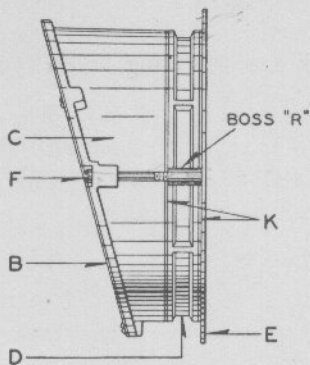
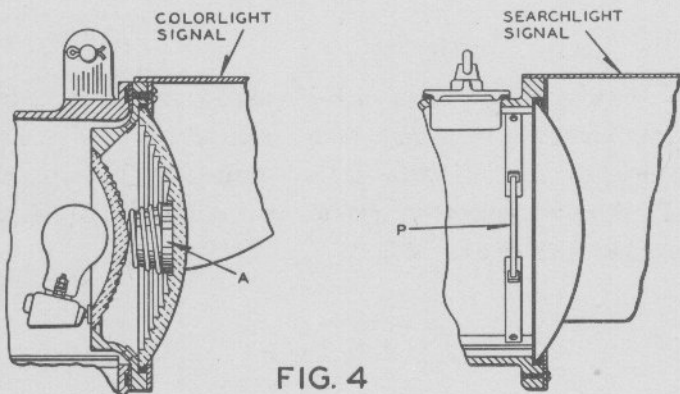

FIG. 1
FIG. 4
Inclined cover glasses with Phankill units are shipped out as shown in Figure 1, and consist of cover glass "B" mounted in inclined ring "C", ring "D" containing the Phankill screen and close-up indication prism, and ring "E" all clamped together with screws "F".
(2) Install in its place ring "E", Fig. 1, with the two bosses "R" on the horizontal center line of signal.
(3) Referring to Fig. 1, after ring "E" is in place, install the Phankill unit, inclined cover glass and holder on the signal, and fasten with the two long No. 14-24 fillister head screws "F" furnished with the assembly. These screws fit into
the two tapped holes in bosses "R" on ring "E". Make sure that the two cork gaskets "K", Fig. 1, cemented to the Phankill unit rim are properly seated against the lens ring "E" in back, and inclined cover glass holder "C" in front.
Assemblies of cover glass and Phankill unit will be furnished per Fig. 1 for all dwarf signals that are now in service. For application observe the following:
(1) Remove and discard close-up prism "P" Fig. 4 and the entire assembly of cover glass with its cast iron ring holder and ring "J" and apply lens ring "E" Fig. 1. This will apply in cases of either convex or flat inclined cover glasses.
(2) Apply the remainder of the assembly per A-3 using in all cases a 10° deflecting cover glass with painted risers on the steps, assembled to deflect light upward and with the prism steps on the outside, away from the lens.
(1) The close-up prisms which must be removed from the signals, are located just behind the front lens in the H-2 and H-5 as indicated by "P", in Fig. 4, held by spring clips, and can be removed through the hand hole.
In other color light signals and marker lights it is located between the front and back lens and held in place by a spring holder, as indicated by "A" in Fig. 4. Remove the back lens and detach the close-up prism and holder. In replacing the back lens, make sure that the yellow line on the lens coincides with yellow line on the housing. In case these lines have been obliterated, mark the lens and housing before removing it so that it can be replaced in its original position.
(2) To adjust the close-up prism in the Phankill, loosen, but do not remove, the two screws "F" which fasten the cover glass holder in place. Rotate the entire Phankill unit and its metal shell "D", Fig. 1, until the close-up indication is observed at the desired point. There is an arrow moulded in the glass of this prism which indicates the direction in which the beam is deflected.
(3) After this adjustment is completed, tighten the two screws "F" securely.